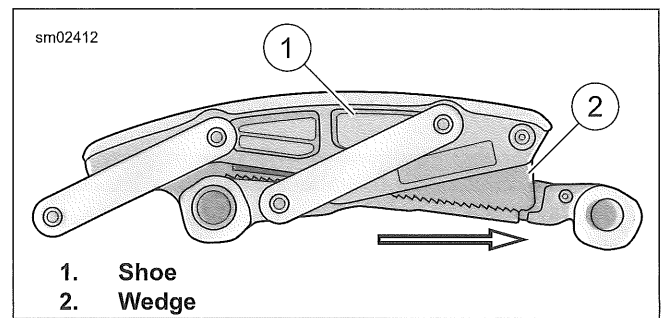

Figure 5-20. Primary Chain Tensioner
- b. See Figure 5-20. Slide wedge (2) of primary chain tensioner in direction of arrow until all travel is removed.